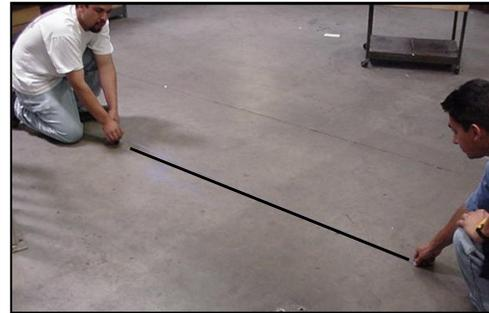

FIGURE 7.1.1
1. Determine the location where the gate will be installed taking into consideration the minimum width opening required (See the “SSG Plan & Elevation View” drawings for the minimum installation requirements). Once the installation location has been determined, snap a chalk line on the floor to mark the centerline of the gate. The chalked centerline should be at least 4 feet in length (See Figure 7.1.1).